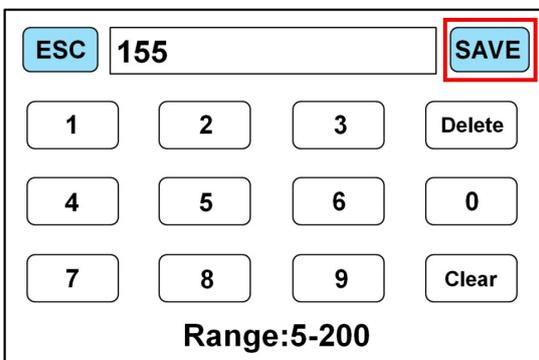
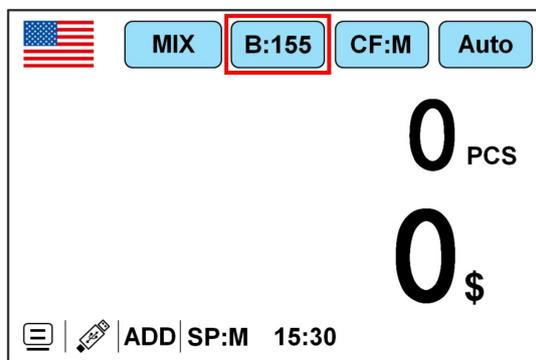

Figure 33
Figure 34
2) At this point, we enter the example value: 155 in the input field, as shown in Figure 33. Click the “” key in the upper right corner of the display again. The machine automatically jumps to the main interface, and the current preset number also jumps to 155, as shown in Figure 34 below: